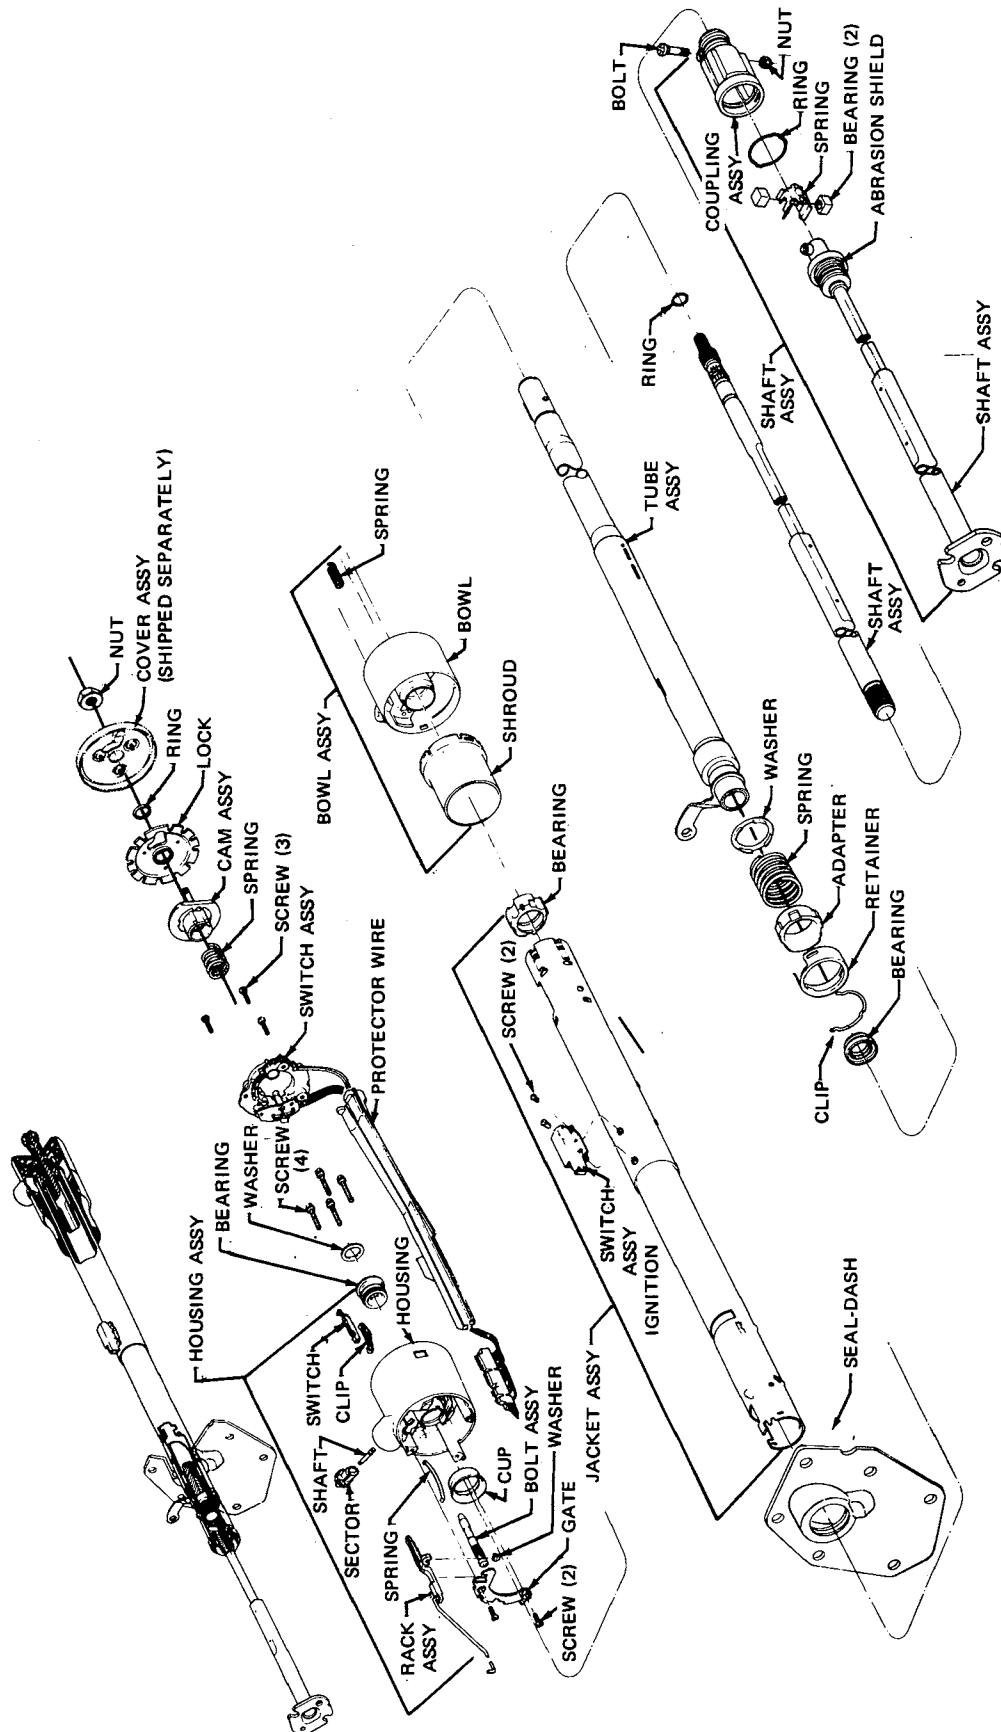

Figure 3G-102 Function Locking Standard Steering Column
3. (Manual Transmission Only) Loosely attach three screws in jacket and shift tube bearing. See Figure 3G-90.